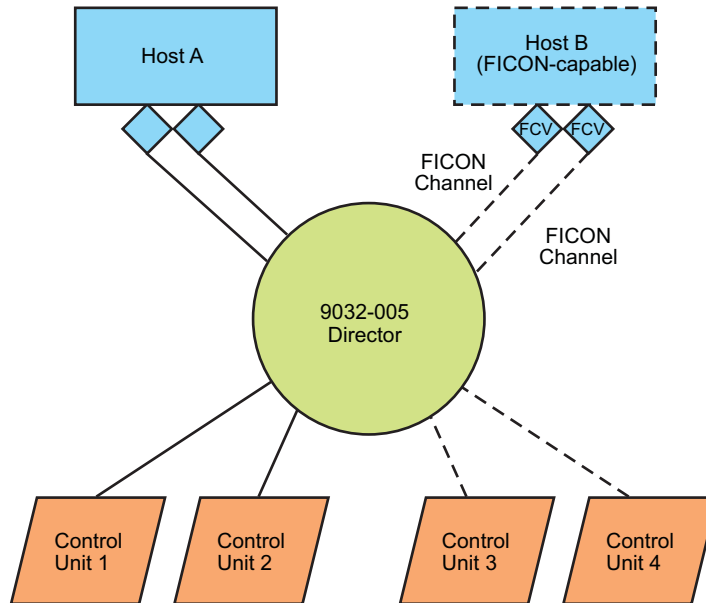

Figure 33. Two Hosts Connected through One Director
- Sharing control units between host systems** - Figure 33 shows an existing configuration with one ESCON host (A), one Director, and two ESCON control units (1 and 2). A FICON-capable host (B) and two ESCON control units (3 and 4) are planned for installation (shown by the dashed lines). Both hosts share access to all four ESCON control units through Director connectivity.